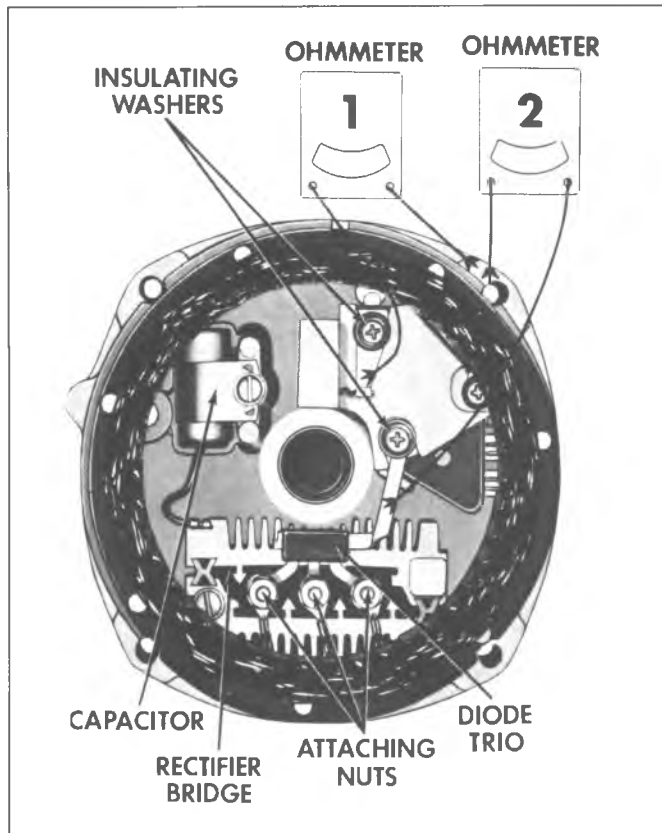

Fig. 8C—Slip Ring End Frame
- b. Connect ohmmeter using lowest range scale from brush lead clip to end frame as shown in Step 1, Figure 8C, then reverse lead connections.
- d. A grounded brush lead clip can result from omission of insulating washer (Fig. 8C), omission of insulating sleeve over screw, or damaged insulating sleeve. Remove screw to inspect sleeve. If satisfactory, replace regulator as covered in the Overhaul Manual.